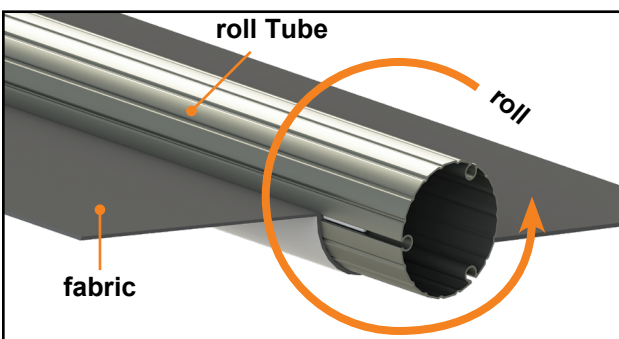

Fig.17
5. Roll the fabric onto the roll tube (Fig. 17). Make sure the fabric stays snug and flat to the roll tube with the printed side facing away.